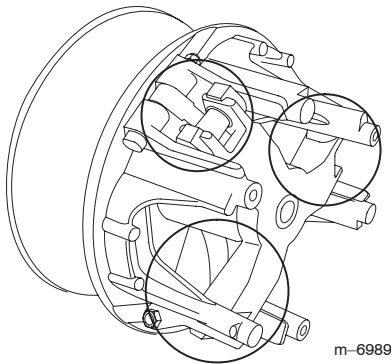

Figure 54
6. Lubricate the moving parts in the areas circled in Figure 54 using Toro Dry Lubricant Spray, available through your Authorized Toro Dealer or Distributor.